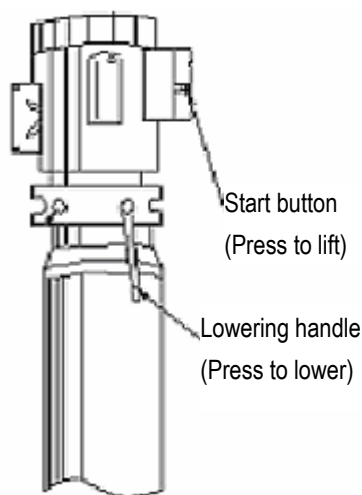

Fig 4
- Press the UP button on the electric control box(Fig.4), slowly lift the vehicle to ensure the load balance, and then raise the lift to the required height.
- Pull the safety lock handle, then press down the lowering handle(Fig.4),the carriage lowers